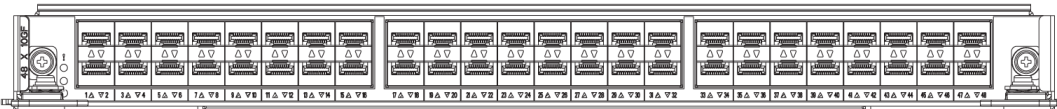

FIGURE 4 48x10G line card (48x1G line card similar)
- 48x1G and 48x10G line card modules – Ports are numbered from 1 through 48, from left to right, with the odd-numbered ports on the upper row and the even-numbered ports on the lower row when installed in the switch. Refer to Figure 4.